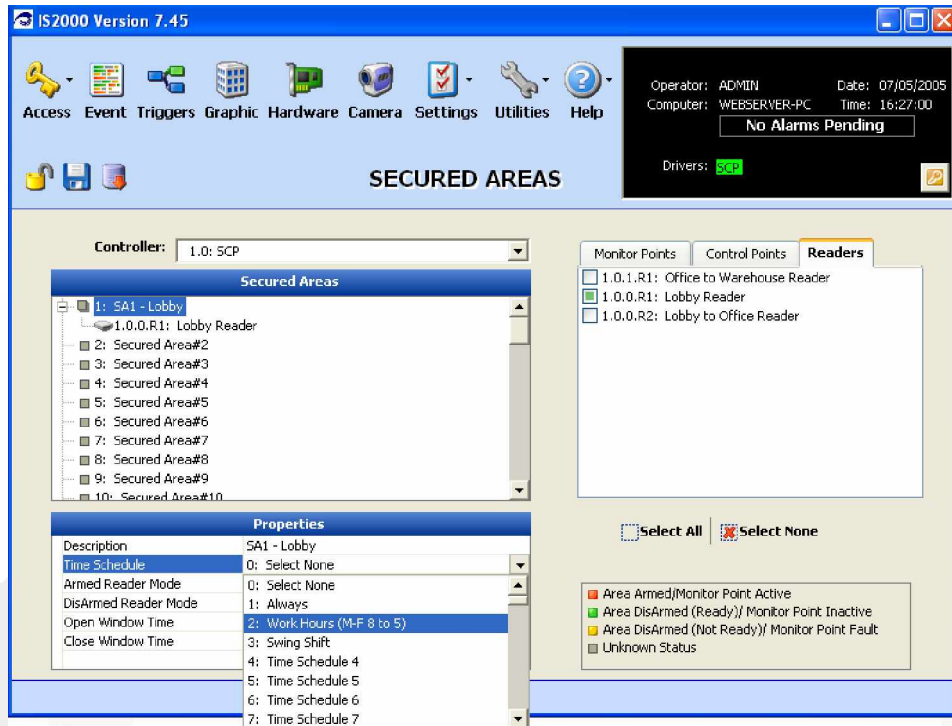

Figure 68 - Assigned Reader
Figure 68 shows that the Lobby Reader has been assigned to Secured Area#1. As usual, notice the - to the left of Secured Area#1, which indicates that at least one device has been assigned to it.
3. Go to the Time Schedule property and click on the drop down menu to display the Time Schedules (Figure 68).